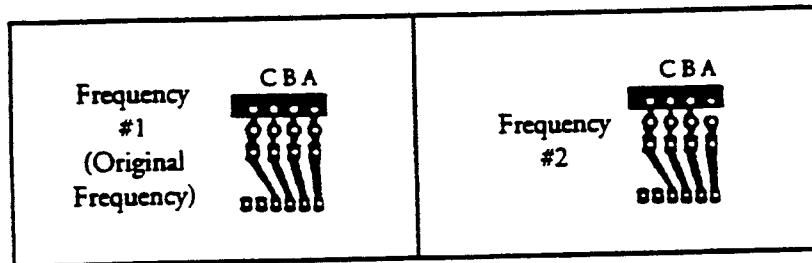

Figure 18
6. Using a razor blade or Exacto knife, cut the connection(s) between the terminals for the address you have chose (Figure 18). Multiple passes should be made to ensure the connection is broken. Be careful not to slip and cut other connections.